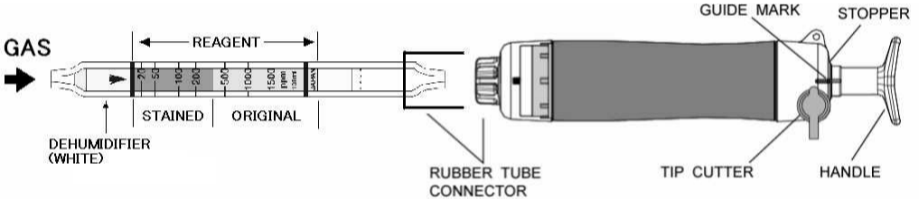

Fig.1
- ② Insert the detector tube into the aspirating pump securely as shown in Fig.1. (Arrow mark shall point to the pump.)
- ③ Align the guide marks on the shaft and stopper of the aspirating pump.
- ④ Pull the pump handle at a full stroke until it locks and wait for 1.5 minutes or until the completion of sampling is confirmed with the flow indicator of the pump (See descriptions about the flow indicator in the instruction manual of the pump).
- ⑤ On completion of sampling, read the scale at the maximum point of the stained layer.
- ⑥ In case of measurement for Methyl amyl ketone, push back the handle without removing the detector tube from the pump inlet, turn it right or left 1/4 and repeat step ④~⑤ twice more.